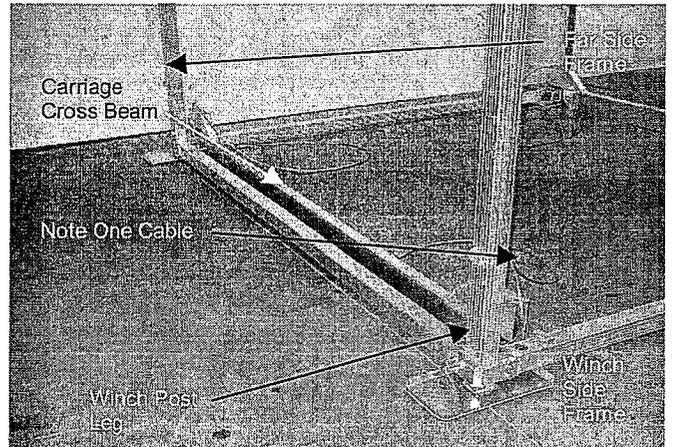

FIG. 9
4. Position the carriage cross beam with one cable at the end of the lift where the winch post leg is located as shown in FIG. 9.